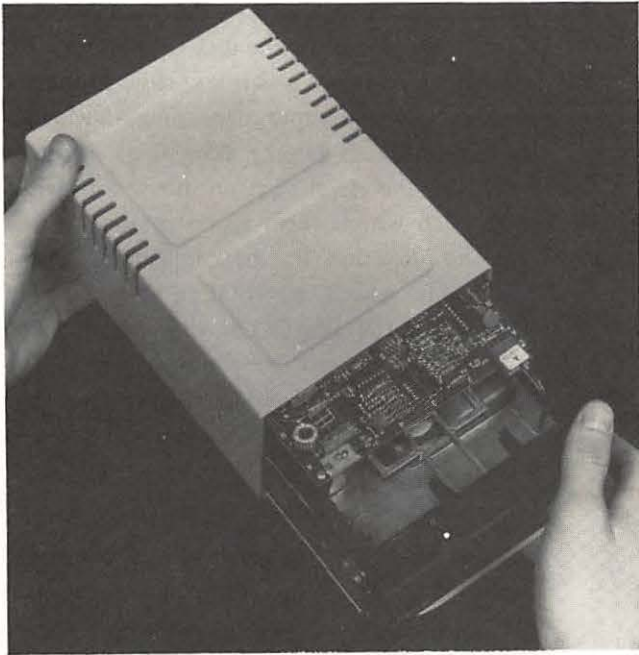

**Fig. 8-17.** Disconnect the ribbon cable from the disk controller card.
4. Disconnect the drive ribbon cable from the disk controller card as shown in Fig. 8-17.